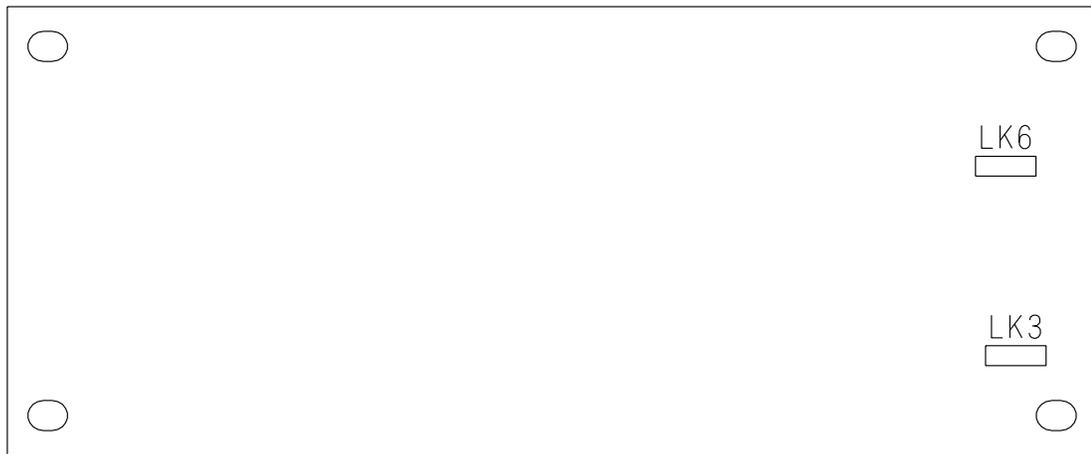

Figure D-3: PAD Daughter Board
3. Verify and set the jumpers on the CPU and daughter boards as shown in Table D-1. You may need to remove the daughter board temporarily to access the jumpers. (See Figure D-3.)